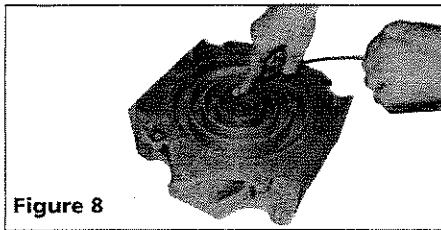

Figure 8
1. Insert new HP tip seal from the center section for OS or Orbit Scroll so that there will be no clearance at the tip (start) section (See Figure 8 and 9).